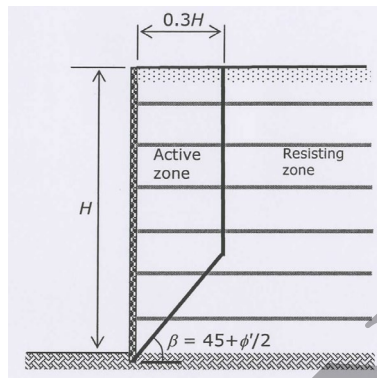

Figure 3
- The locus of maximum tension force in reinforcement is usually approximated by the two lines shown in Figure 3.